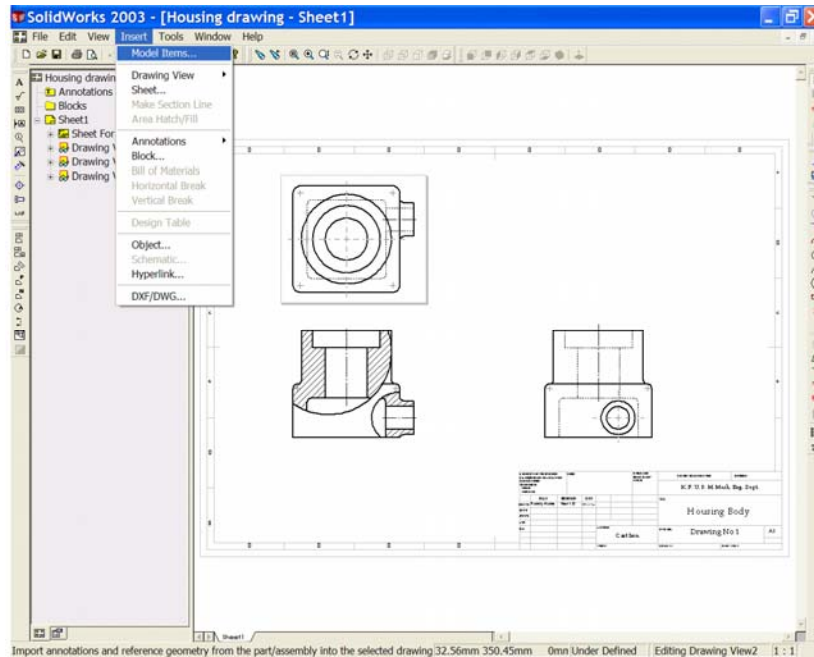

Figure 31
29. We are now ready to insert the dimensions. Place the cursor over the **'Insert'** dropdown menu at the top of your screen and open. Choose **'Model Items...'** See Figure 31. **'The Insert Model Items'** dialog box opens. Ensure that the **'Dimensions'**, **'Import items into all views'**